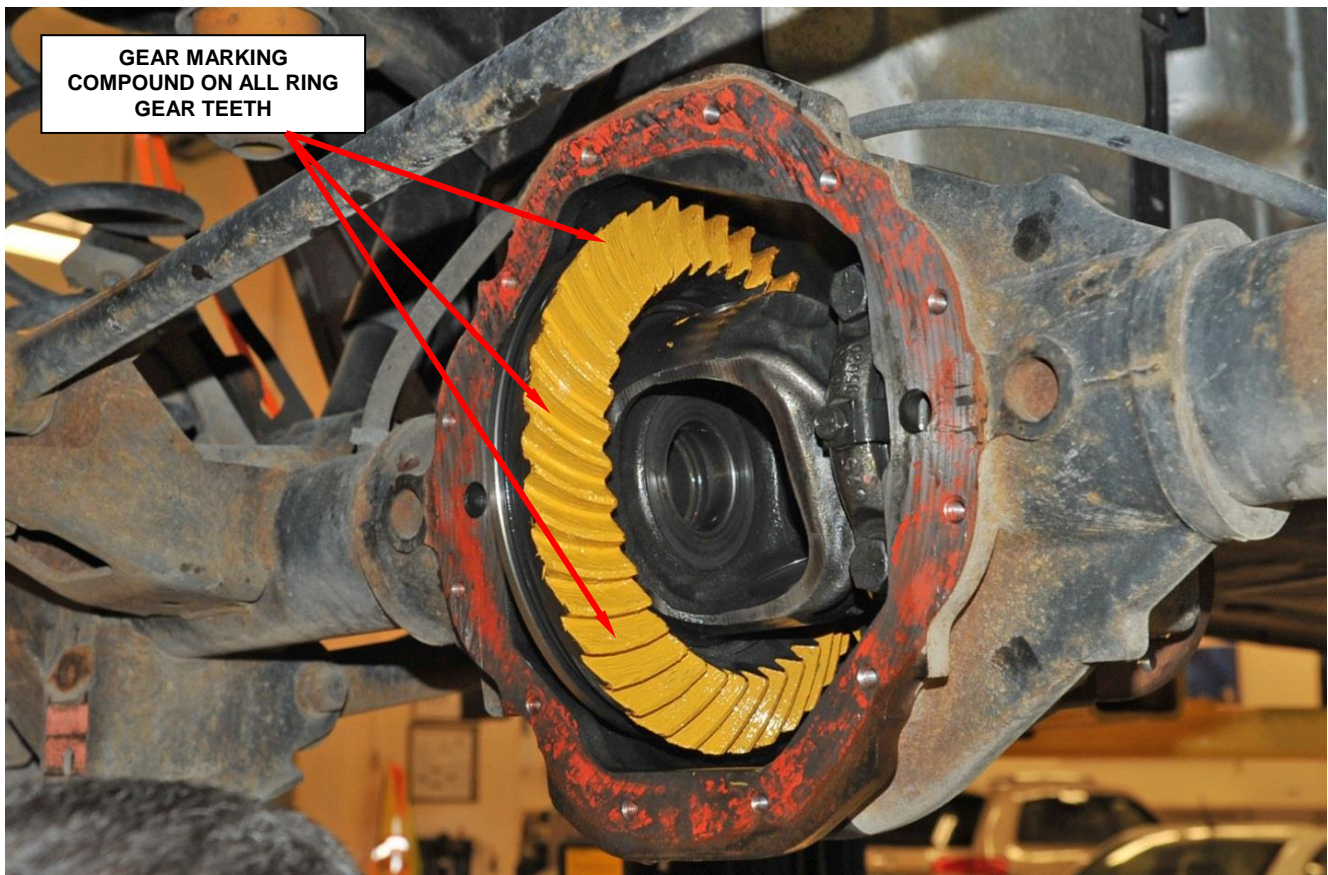

Figure 36 – Apply Gear Marking Compound to Ring Gear Teeth
- b. Apply Mopar gear marking compound to all of the ring gear teeth (Figure 36).
- d. Rotate the pinion yoke four (4) full revolutions in each direction.